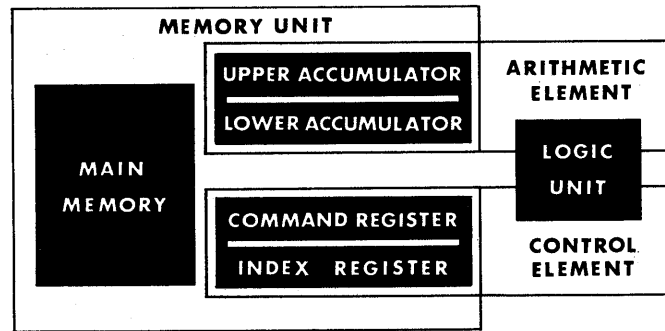

FIGURE 12 — Computer Control Elements
All computer functions are controlled by the arithmetic and computing control elements, which are comprised of four registers and their associated circuitry. The registers are recirculating tracks on the memory drum. Internal calculations are accomplished by directing information from memory to the arithmetic element, processing it, and directing it either back to memory or to an output device. The four registers are designated: Upper Accumulator (U), Lower Accumulator (L), Command Register (C), and Index Register (X). The first two registers form the arithmetic element and the latter two the control element (Figure 12).